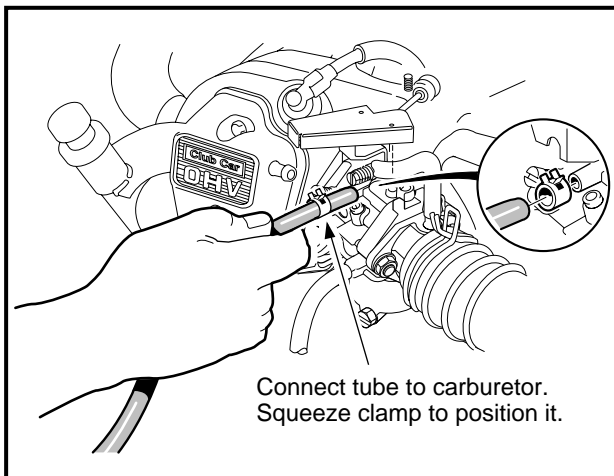

Figure 16-102 Carburetor Tube
32. Connect carburetor vent tube to carburetor and secure with hose clamp **(Figure 16-102, Page 16-40)**.